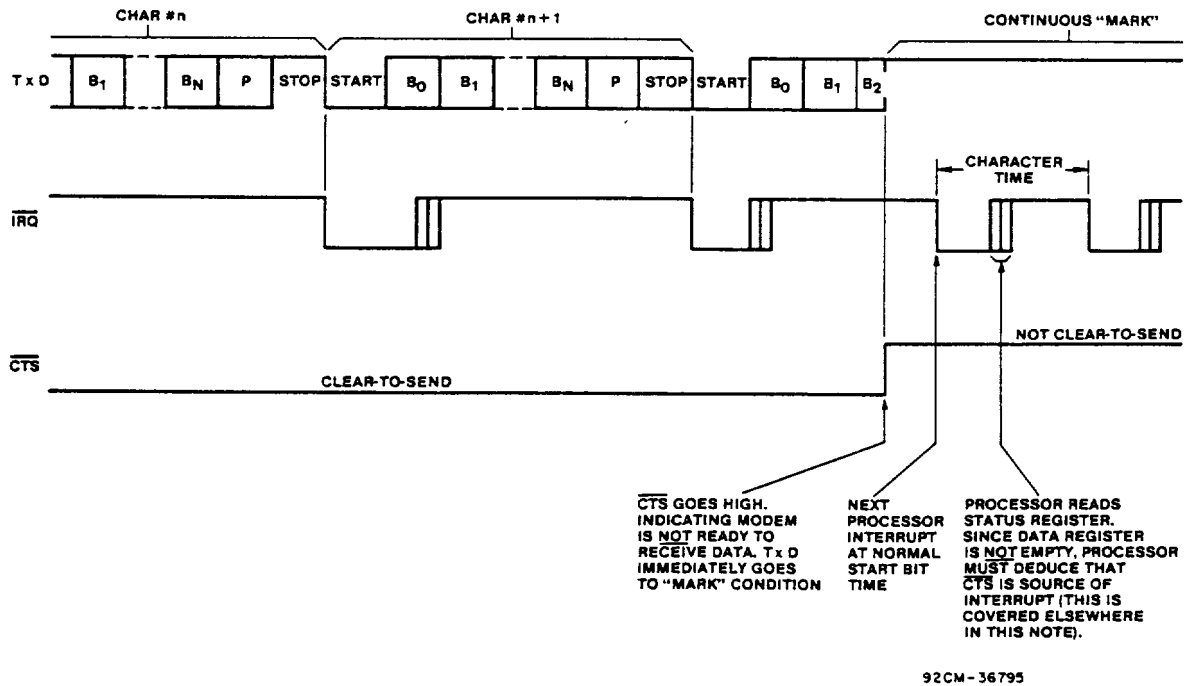

Fig. 10 - Effect of  $\overline{CTS}$  on transmitter.
**Effect of  $\overline{CTS}$  on Transmitter (Fig. 10)**